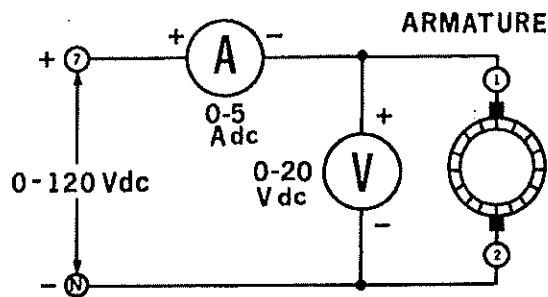

Figure 2-3.
- 9. Connect the circuit shown in Figure 2-3.